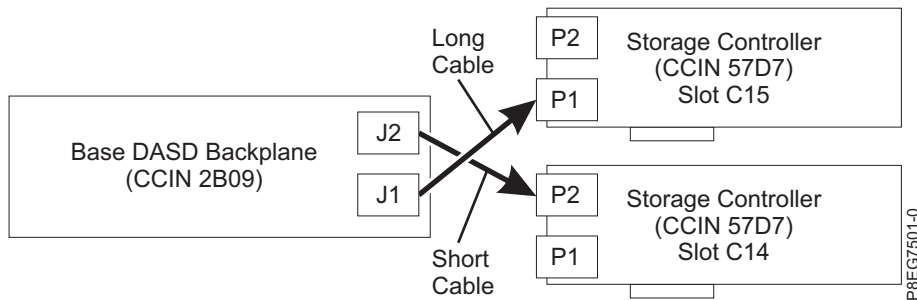

Figure 38. Reconnecting the SAS cable in a split-disk configuration
- If you have two PCIe3 x8 SAS RAID internal adapters (CCIN 57D7) (split-disk feature), the short SAS cable connects the upper disk drive backplane connector (J2) to the P2 connector on the adapter in slot P1-C14. The long SAS cable connects the lower disk drive backplane connector (J1) to the P1 connector on the adapter in slot P1-C15. See Figure 38 on page 38.